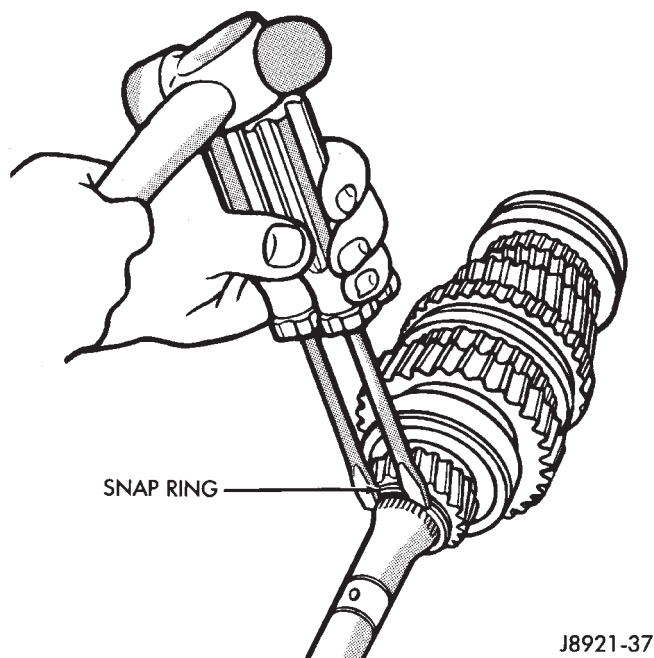

Fig. 113 Remove Fifth Gear Snap-ring
(3) Remove output shaft fifth gear snap ring with two screwdrivers (Fig. 113).